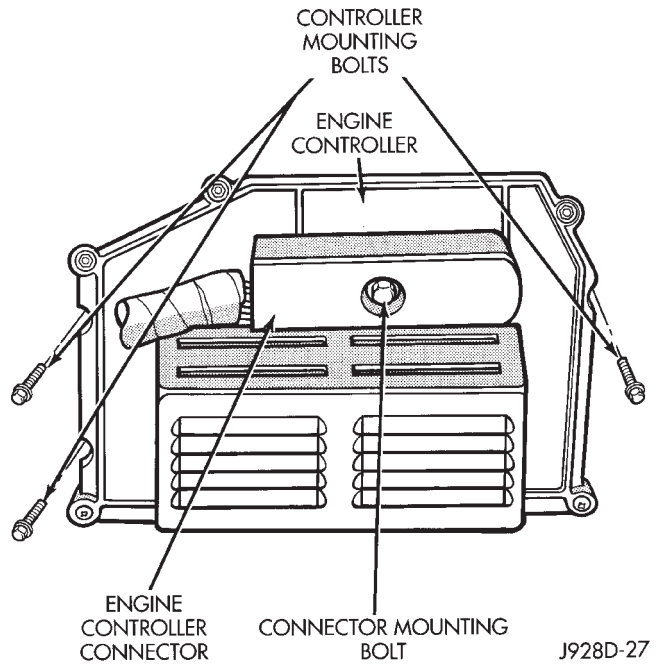

Fig. 7 Engine Controller—3.9L/5.2L Engine
The engine controller is located in the engine compartment behind the battery and under the left front fender (Fig. 7).
- (1) Disconnect the negative battery cable at battery.
- (2) Remove battery holddown clamps.
- (3) Position battery to gain access to engine controller.
- (4) Remove 60-way electrical connector from the engine controller.
- (5) Remove the three engine controller-to-mounting bracket bolts (Fig. 7). Do not remove the engine controller mounting bracket from the fender.
- (6) Remove controller from vehicle.